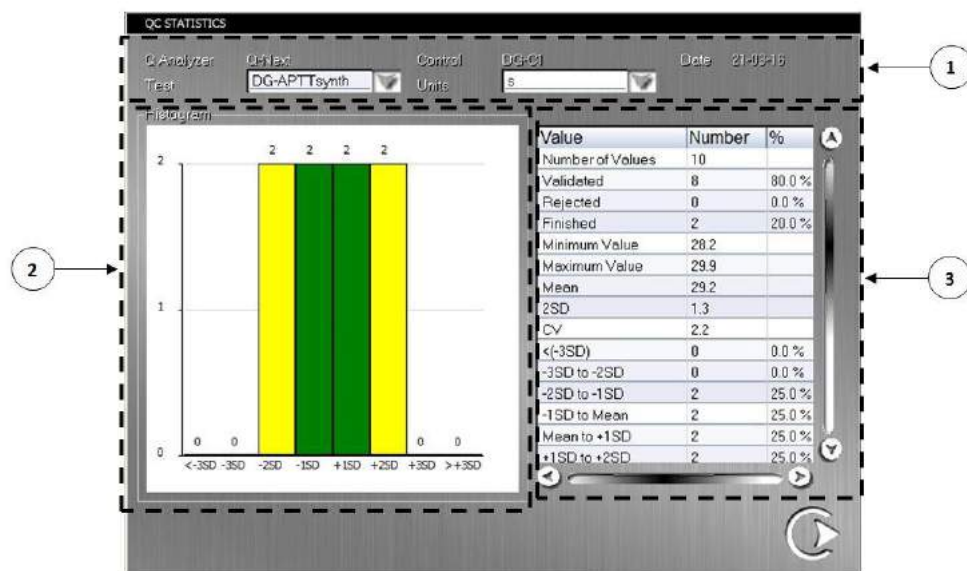

Figure 11.6. Control Statistics Window
- (1) Area for identifying the Control and selecting the Test and the Units to be statistically analysed.
- (2) Chart Area.
- (3) Statistical table of results.
Figure 11.6 shows the **Control Statistics** window which includes a histogram (Figure 11.6, no. 2) showing the number of Controls classified according to whether the distance between the result and the Mean is +/- 1, 2, 3 Standard Deviations (SD).
It also includes a table (Figure 11.6, no. 3) with extended statistical information, such as: